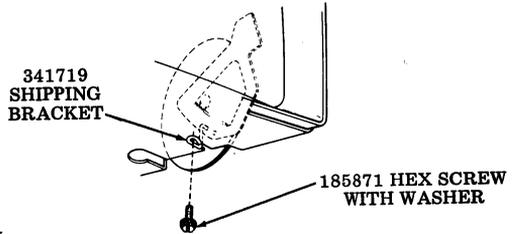

Fig. 5
Step 2. Immobilize tube tilt mechanism with 341719 shipping bracket as illustrated in Fig. 5.